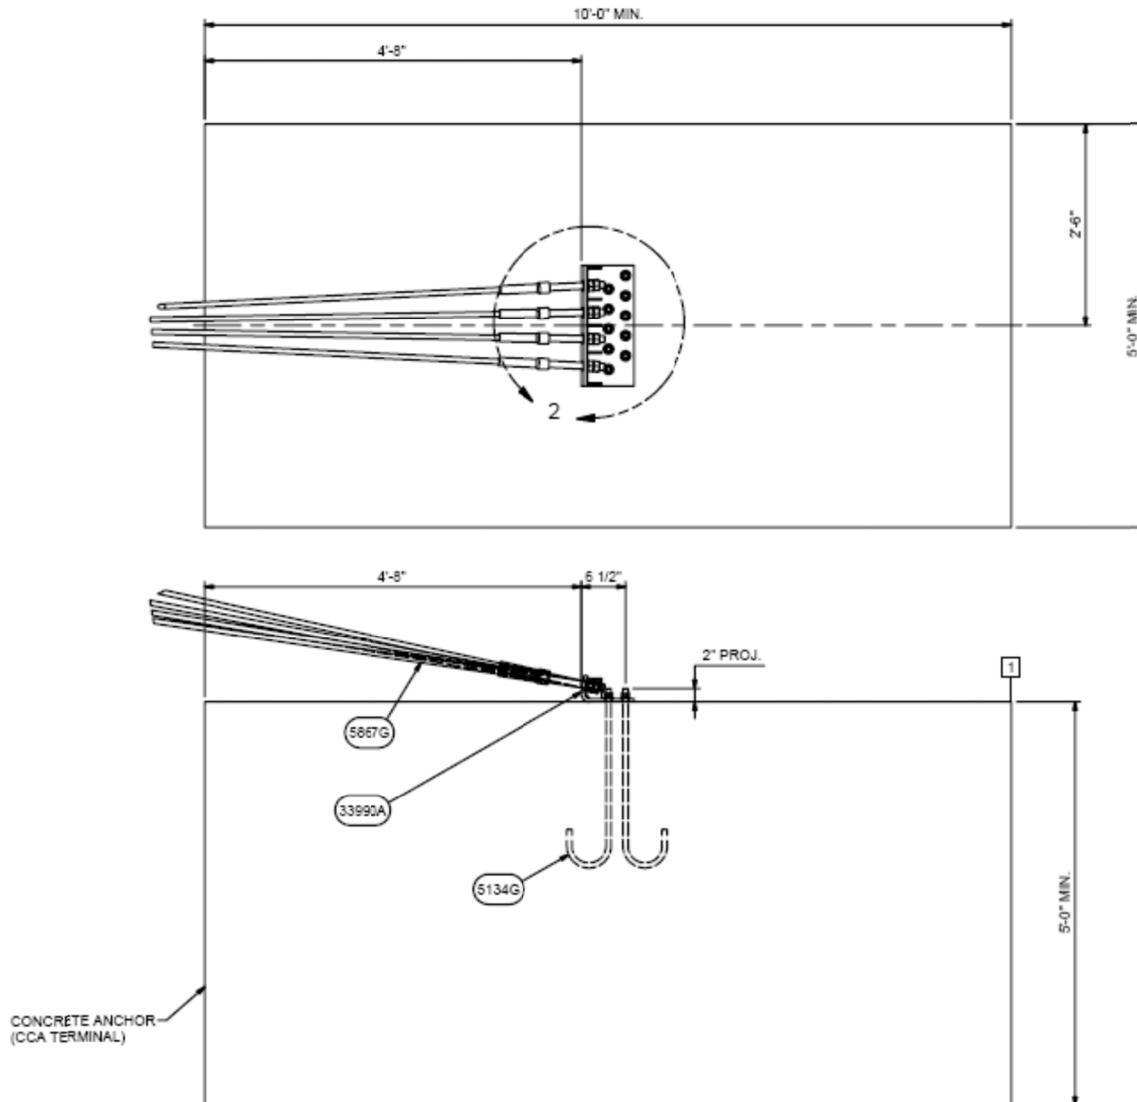

Figure 8 CASS™ Cable Anchor (CCA)
The anchor block can either be precast or cast in place. It is 10 feet (3 m) long, 5 feet (1.5 m) wide, and 5 feet (1.5 m) deep (See Figure 8 on Page 20). The appropriate highway authority's standards may require a larger footing.
2. Form a footing to the dimensions shown in Figure 8.
Option A. Secure ten (10) 3/4" (19 mm) "J" hooks (PN-5134G) for the anchor bracket. See Figure 8 CASS™ Cable Anchor (CCA) for the location and orientation of the bolts.
Option B. After the footing has reached strength, drill ten (10) 1" (25 mm) X 12" (305 mm) holes in the footing for the anchor studs. See Figure 8 for the location and orientation of the holes. Place a 3/4" (19 mm) anchor stud in each hole with an appropriate adhesive. Place according to the adhesive manufacturer's recommendation.